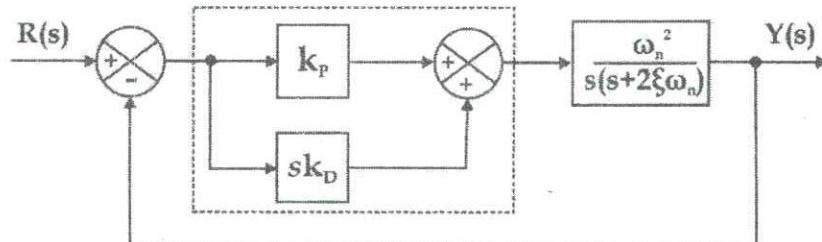

Figure Q1(b).
- b) You are required to design a controller for the general second order system shown in Figure Q1 (b). All the notations have their usual meanings. Show that the damping of the system can be improved by adding a PD type controller as illustrated in Figure Q1 (b).